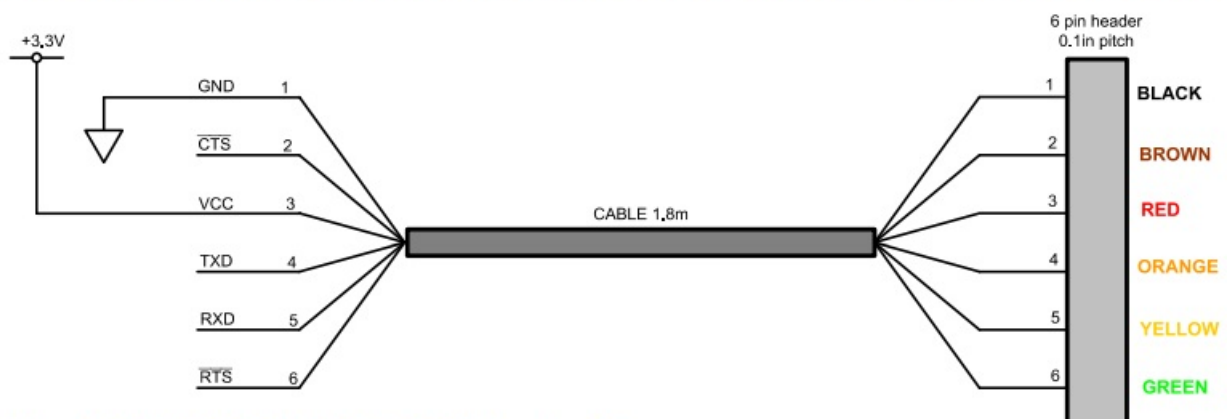

Figure 6. FTDI TTL-232R-3V3 USB-to-RS232 adapter cable
- Plug the FTDI TTL-232R-3V3 USB-to-RS232 adapter cable onto the single-row header PL_UART on the linker board. Pin 1 (0V) takes the black lead (Figure 6 below). Only the GND, TXD, and RXD signals are used from the FTDI TTL-232R-3V3 adapter